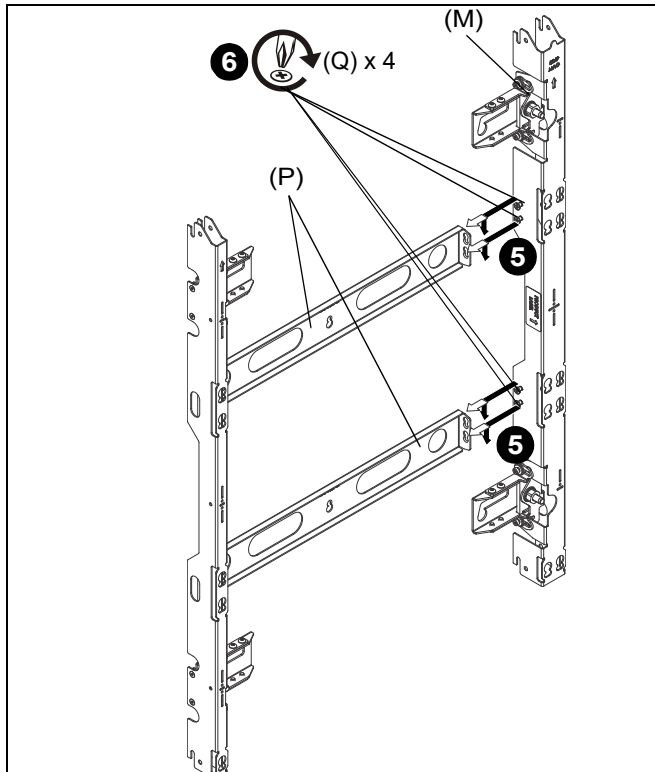

Figure 5
5. Hang middle upright (M) or right upright (N) onto side of spacer plate (P) using screws loosely installed in Step 2. (See Figure 5)
6. Tighten screws holding uprights (L, M or N) to spacer plate (P). (See Figure 5)